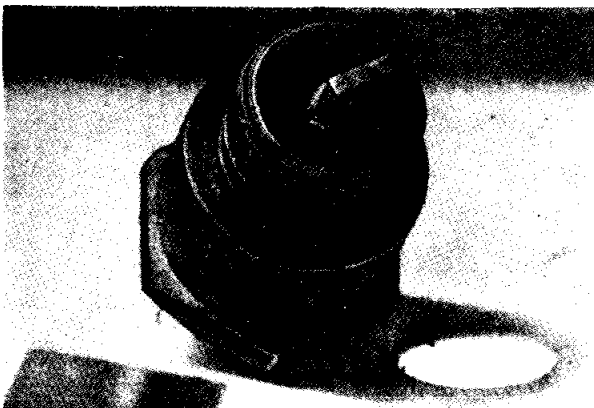

Fig. 42
- (e) Occasionally a blistered insulator or baldy burned electrode may be noted when examining plugs (Fig. 42). If the plug is the type normally recommended for the engine and was correctly installed, *i.e.*, down tight on the gasket—the condition may have been brought about by a very "lean" mixture, or overheated engine. It is well to remember that plugs operating in the condition described above are often the cause of poor engine performance and extravagant petrol con-